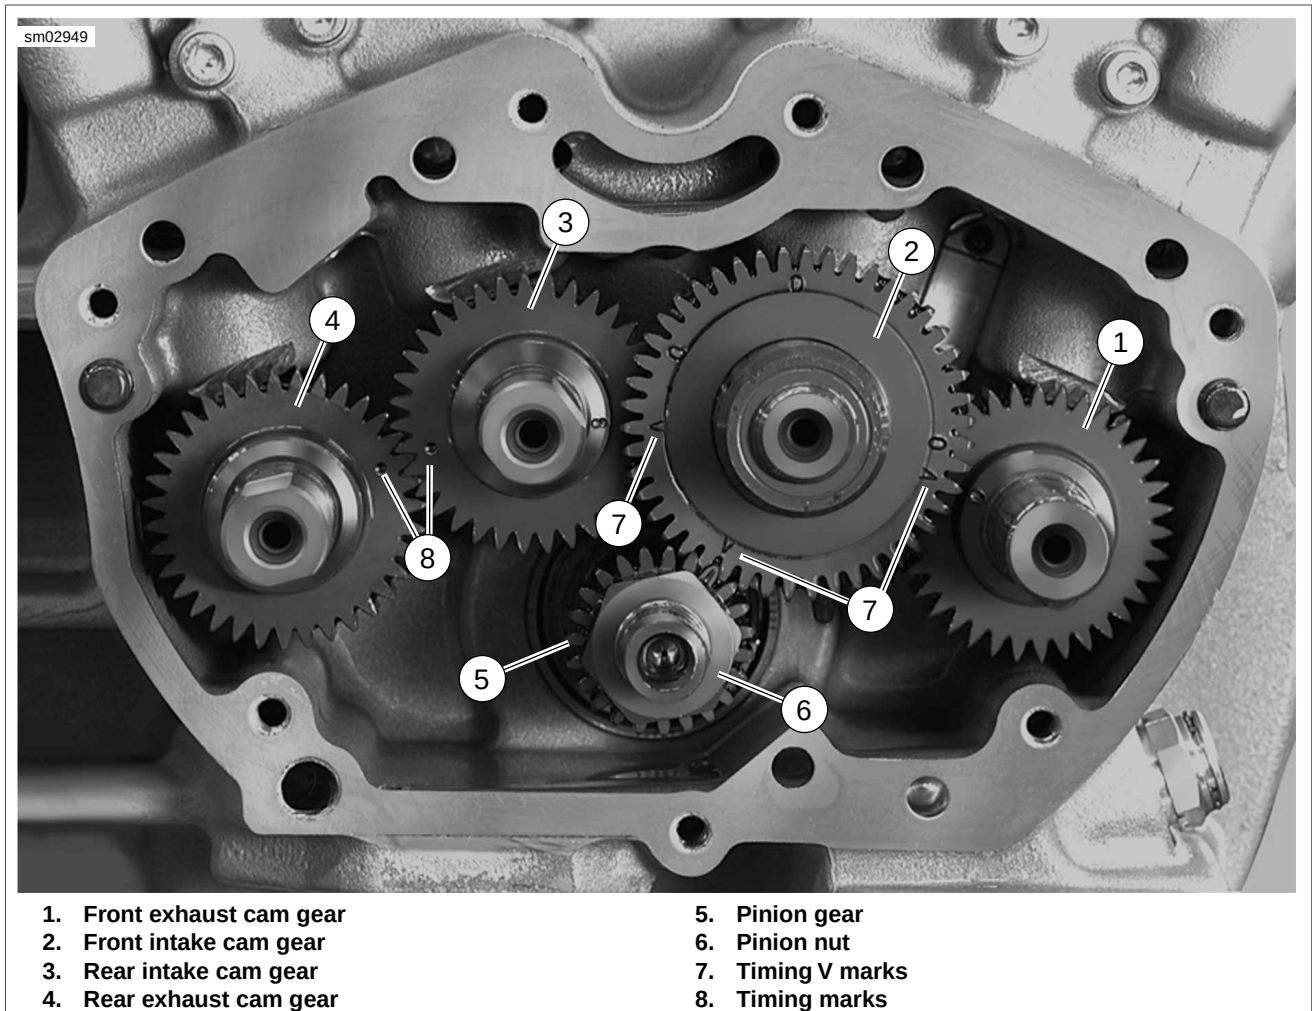

Figure 3-111. Cam and Pinion Gear Location and Timing Mark Indexing
7. See Figure 3-111. Rotate crankshaft until all timing marks (7, 8) are aligned as shown.
8. See Figure 3-111. Remove cam gears (1, 2, 3 and 4).
See Figure 3-111. The timing marks are located on the front intake cam gear (2). Note the "V" marks (7).
- b. See Figure 3-111. Install CRANKSHAFT LOCKING TOOL (Part No. HD-43984) to gearcase with "Side B" facing out, over pinion shaft, with two screws.